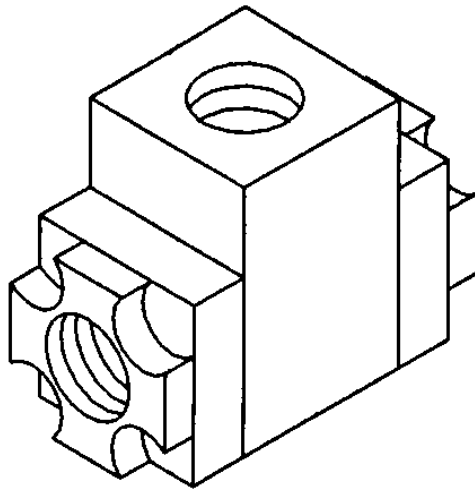

Figure 4-5 – SHUTTLE VALVE
Shuttle Valve (Figure 4-5) - Also known as a double check valve, the shuttle valve is a device which will take two (2) supply signals and allow the one with the highest pressure to pass through. The shuttle valve is used to provide control air pressure from either the reservoir or plant air system, as required during different operating conditions.